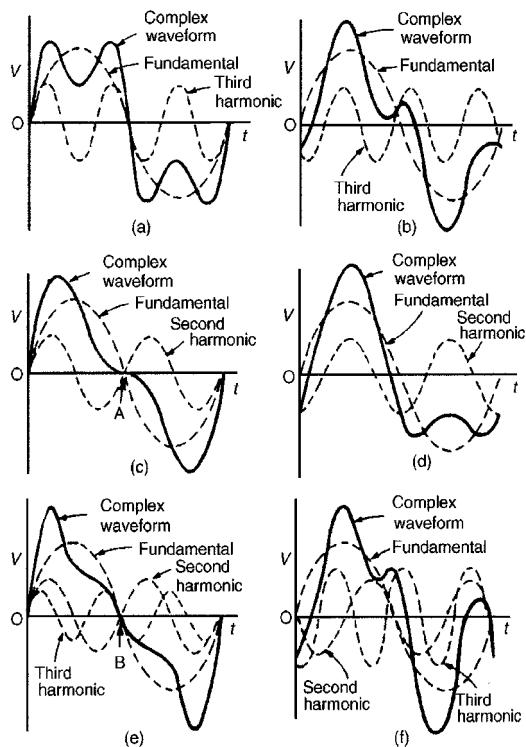

Figure 10.22
- (ii) A complex waveform comprising the sum of the fundamental and a third harmonic of about half the amplitude of the fundamental is shown in Fig. 10.22(a), both waveforms being initially in phase with each other. If further odd harmonic waveforms of the appropriate amplitudes are added, a good approximation to a square wave results. In Fig. 10.22(b), the third harmonic is shown having an initial phase displacement from the fundamental. The positive
and negative half cycles of each of the complex waveforms shown in Figures 10.22(a) and (b) are identical in shape, and this is a feature of waveforms containing the fundamental and only odd harmonics.
- (iii) A complex waveform comprising the sum of the fundamental and a second harmonic of about half the amplitude of the fundamental is shown in Fig. 10.22(c), each waveform being initially in phase with each other. If further even harmonics of appropriate amplitudes are added a good approximation to a triangular wave results. In Fig. 10.22(c), the negative cycle, if reversed, appears as a mirror image of the positive cycle about point A. In Fig. 10.22(d) the second harmonic is shown with an initial phase displacement from the fundamental and the positive and negative half cycles are dissimilar.
- (iv) A complex waveform comprising the sum of the fundamental, a second harmonic and a third harmonic is shown in Fig. 10.22(e), each waveform being initially ‘in-phase’. The negative half cycle, if reversed, appears as
a mirror image of the positive cycle about point B. In Fig. 10.22(f), a complex waveform comprising the sum of the fundamental, a second harmonic and a third harmonic are shown with initial phase displacement. The positive and negative half cycles are seen to be dissimilar.
The features mentioned relative to Figures 10.22 (a) to (f) make it possible to recognize the harmonics present in a complex waveform displayed on a CRO.